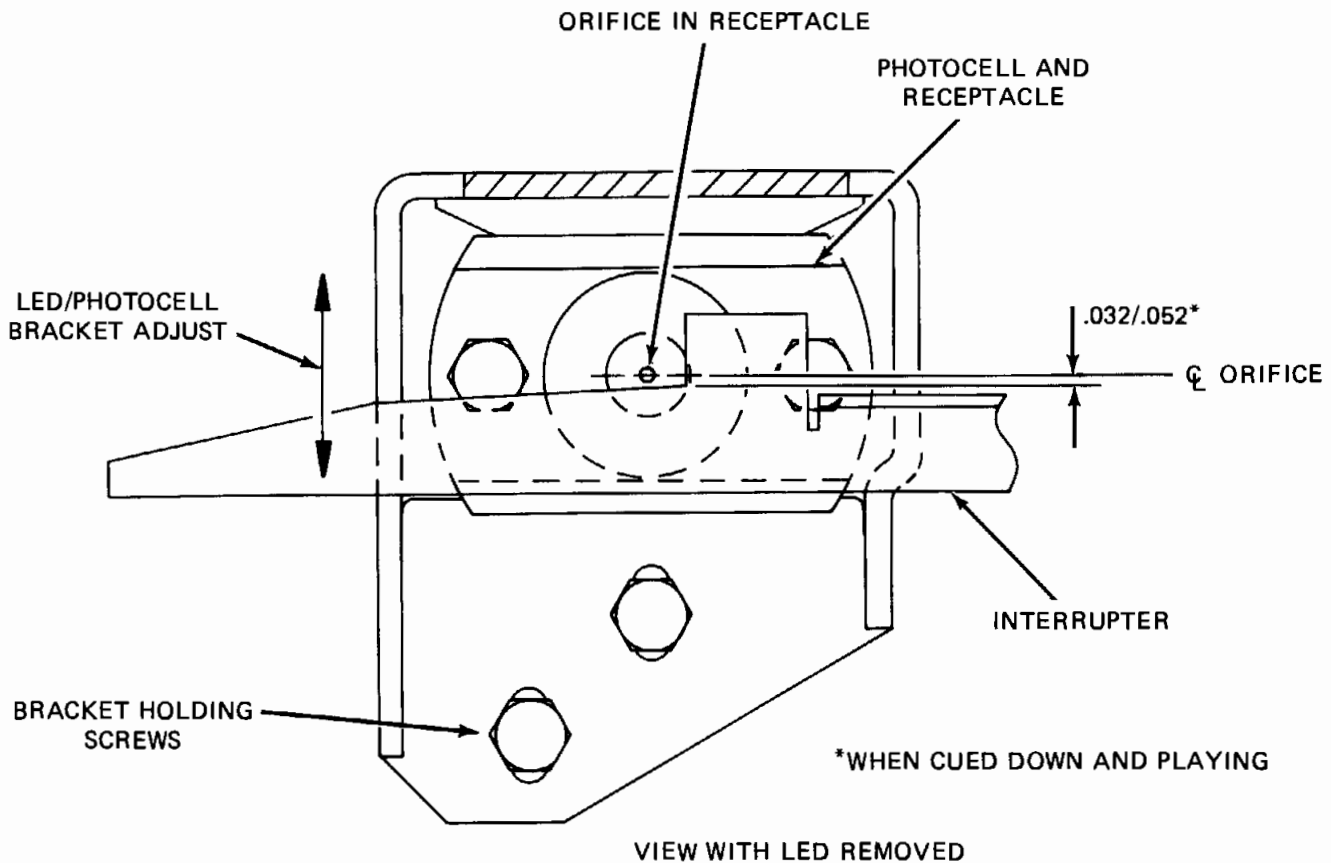

Figure 9. Led/Photocell bracket adjustment
D. Method of Adjustment (Refer to figure 9) (Use Tool No. 2)
1. With the unit in the stop position and the arm cued up, move the carriage to the left approx. 1/4" from its limit of travel. Cue the arm down. Loosen the two screws and position the LED/Photocell assembly until the rear edge of the interrupter is as shown in Figure 9. Tighten both screws, making sure the assembly does not move.